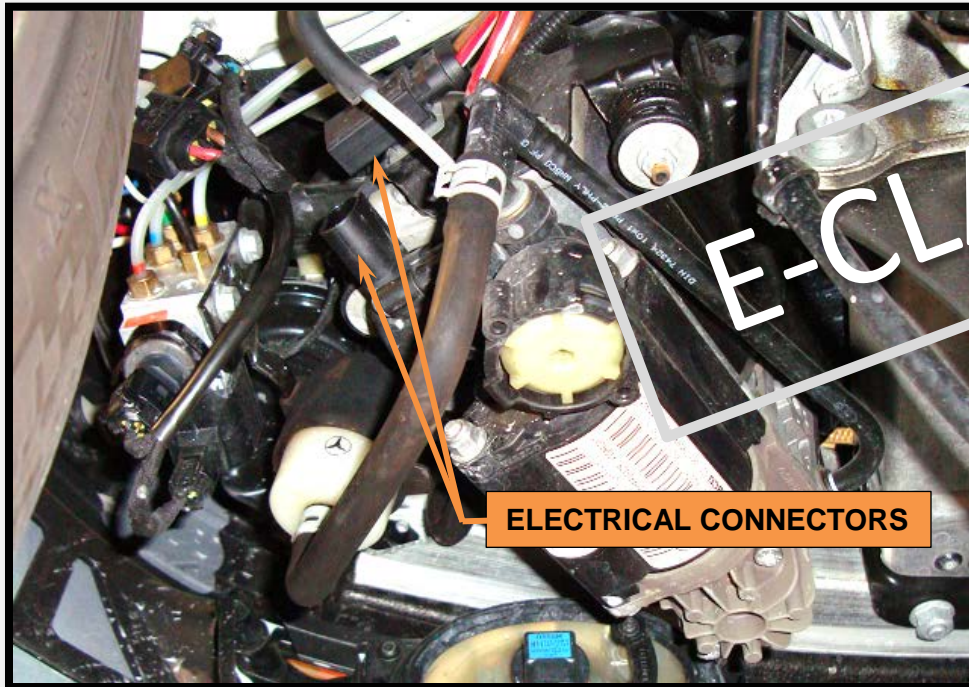

Figure 4.0
4.0 Disconnect the two (2) electrical connectors for the compressor unit (3). (Figure 4.0)